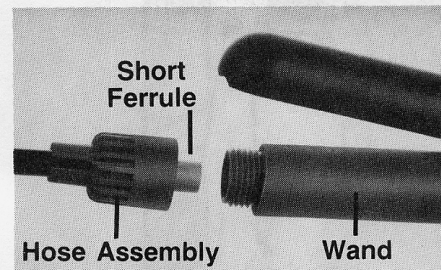

Fig. 4
- C. Screw the back end of the Wand into the other Hose Nut at the free end of Hose Assembly. (See Fig. 4). Do not overtighten.